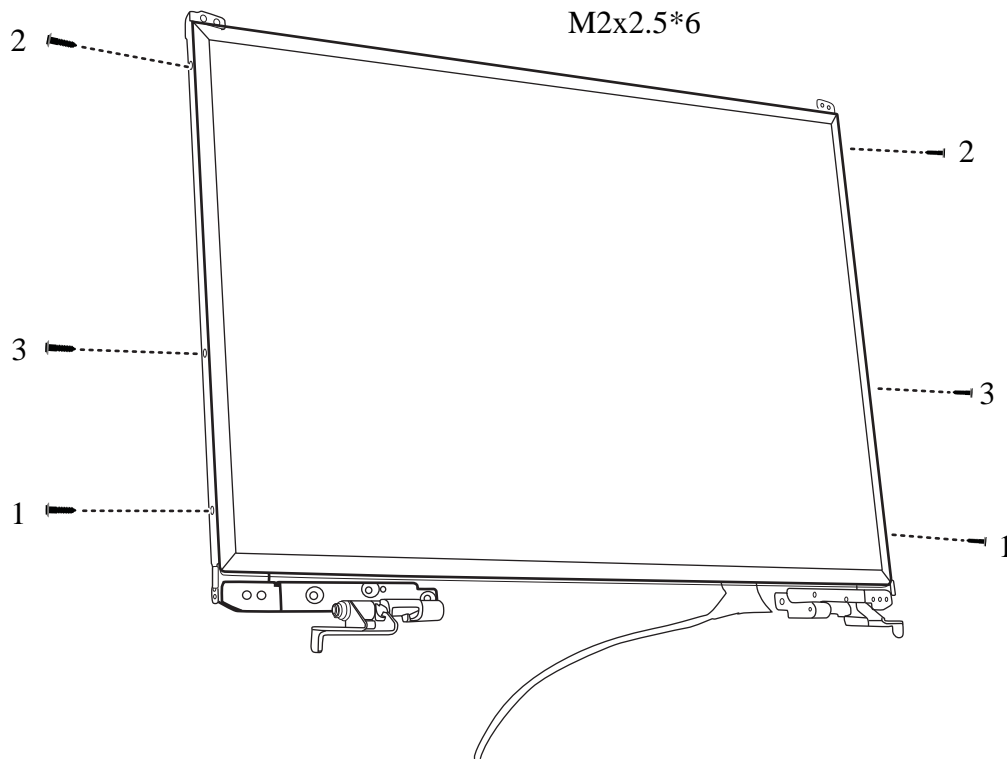

Figure 4.44 Removing the LCD Hinge Assembly
3. Remove six M2x2.5 screws according to the sequence indicated in the Figure 4.44, and then remove the LCD hinge assembly.